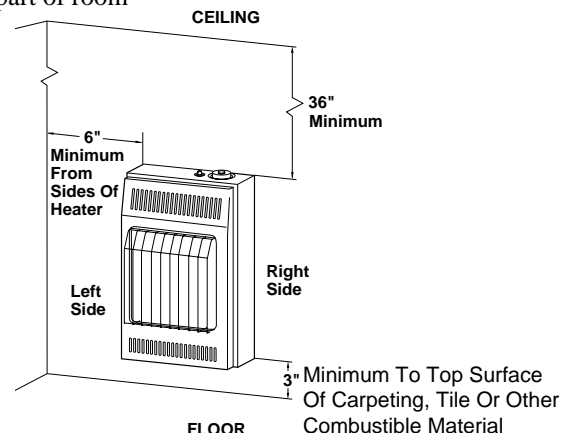

Figure 2 - Mounting Clearances As Viewed From Front of Heater
**⚠ WARNING:** Maintain the minimum clearances shown in Figure 2. If you can, provide greater clearances from floor, ceiling, and joining wall.